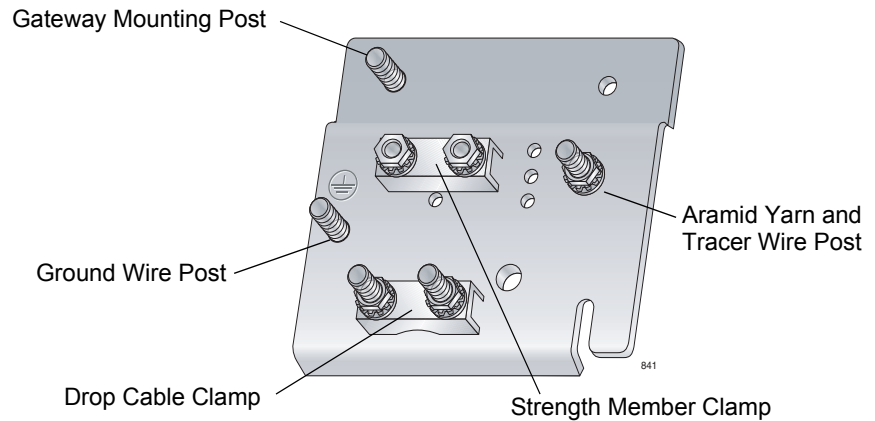

Figure 5. Grounding Plate
2. Remove the grounding plate (shown in Figure 5) and the self-tapping screw from the accessory kit.
7. Locate the drop cable clamp on the grounding plate (see Figure 5 on page 35) and remove the Kepnuts, washers, and bar from the posts.
8. Locate the strength member clamp (see Figure 5 on page 35) on the grounding plate and loosen the Kepnuts.
2. Remove the Kepnut from the ground wire post (see Figure 5 on page 35).
2. Loosen the nut on the tracer wire post (see Figure 5 on page 35).
8. Locate the drop cable clamp on the grounding plate (see Figure 5 on page 35) and remove the Kepnuts, washers, and bar from the posts.
9. Locate the strength member clamp (see Figure 5 on page 35) on the grounding plate and remove the Kepnuts and bar.